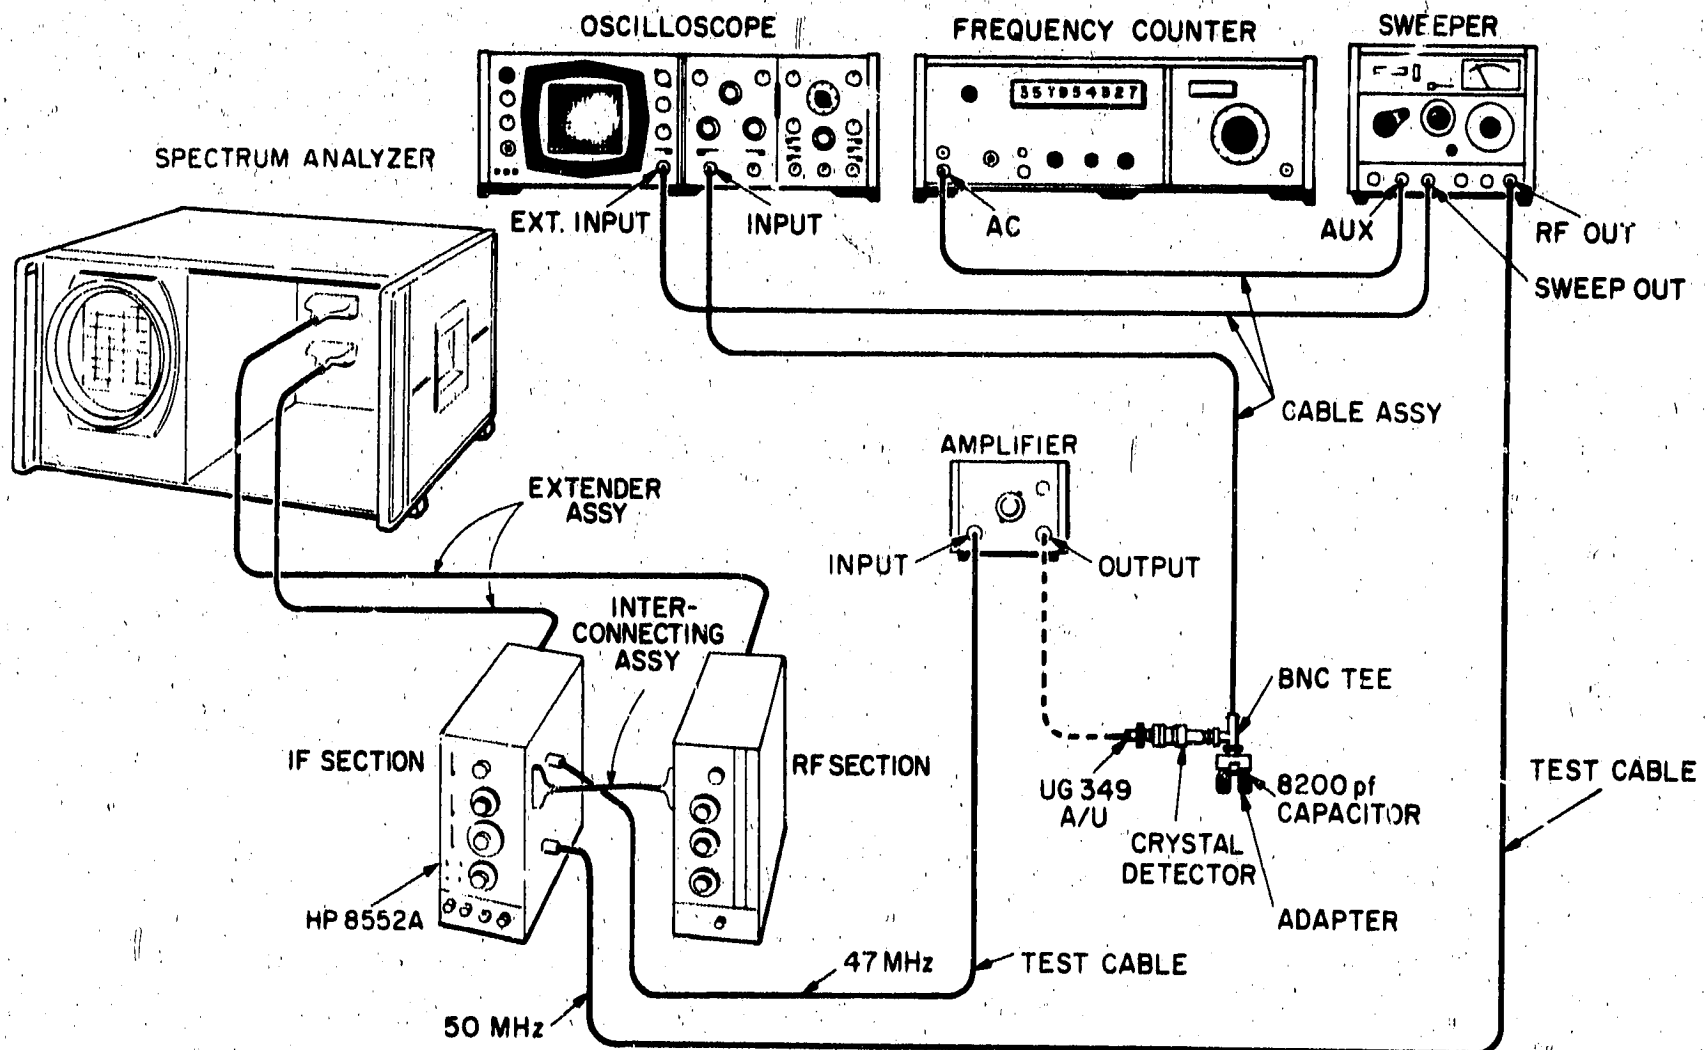

Figure 5-14. 50 MHz IF Bandpass Adjustment Test Setup
1. Connect the test setup as shown in Figure 5-14. Make the following control settings: